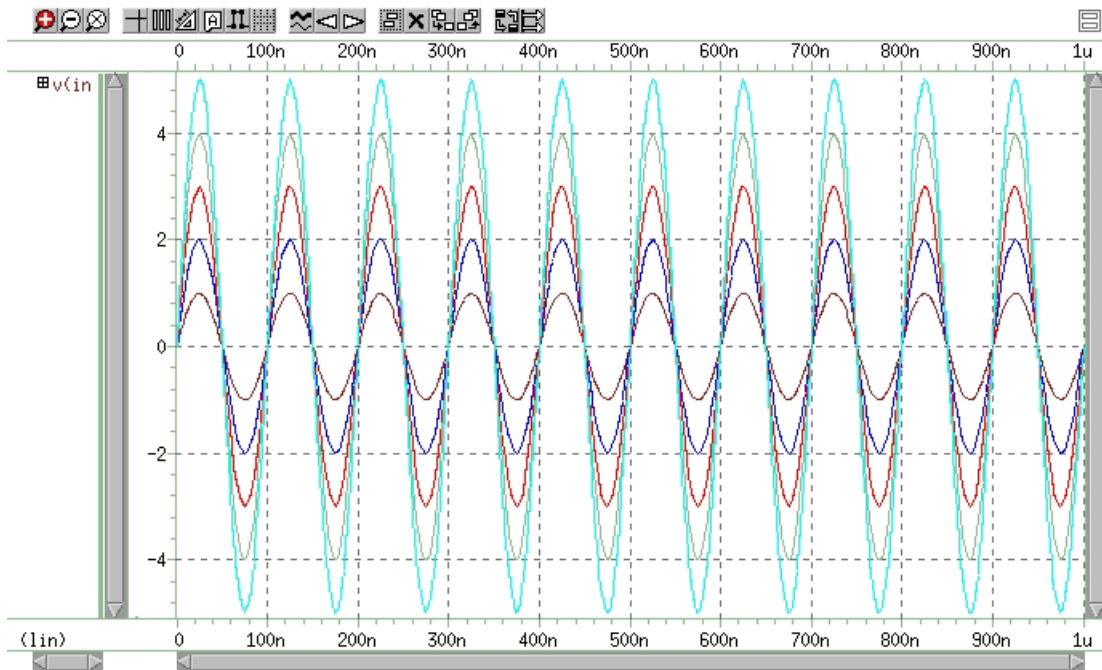

Figure 283 Plot of Voltage on Node in
5. Left-click on the signal $v(in)$, then drag and drop the selected signal into the WaveView panel to display a plot similar to the one shown in Figure 283 on page 1187.